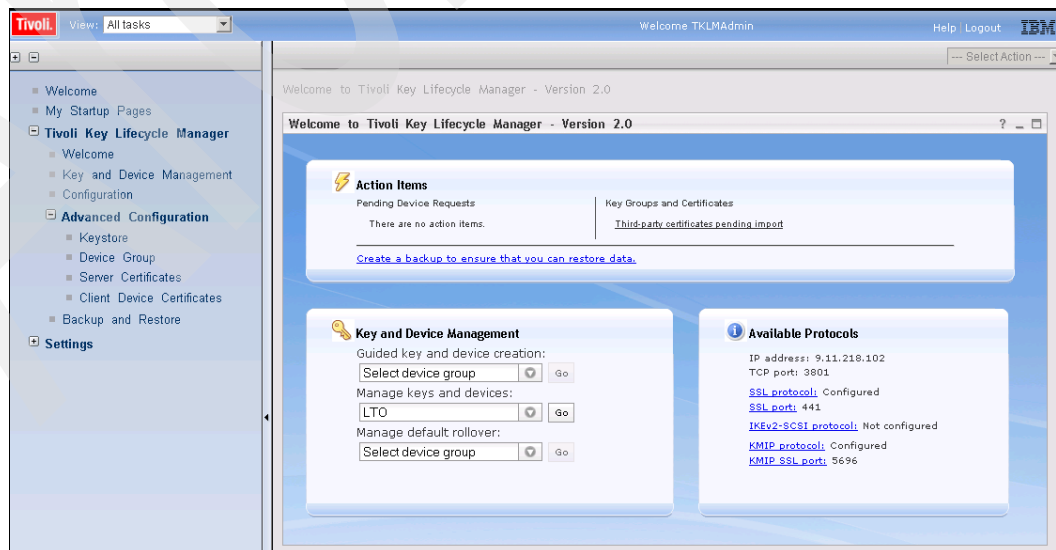

Figure 9-50 Welcome panel with selected manage keys and devices item
- On the Welcome panel, select the LTO key group from the **Manage keys and devices** drop-down list and click **Go** (Figure 9-50).